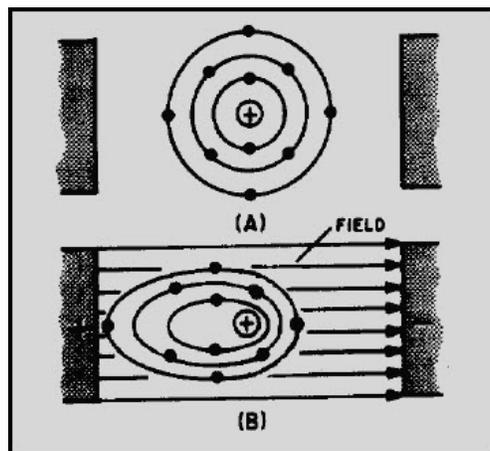

Figure 3-3 Distortion of electron orbital paths due to electrostatic force
If two unlike charges are placed on opposite sides of an atom whose outermost electrons cannot escape their orbits, the orbits of the electrons are distorted as shown in figure 3-3. Figure 3-3(A) shows the normal orbit. Part (B) of the figure shows the same orbit in the presence of charged particles. Since the electron is a negative charge, the positive charge attracts the electrons, pulling the electrons closer to the positive charge. The negative charge repels the electrons, pushing them further from the negative charge. It is this ability of an electrostatic field to attract and to repel charges that allows the capacitor to store energy.